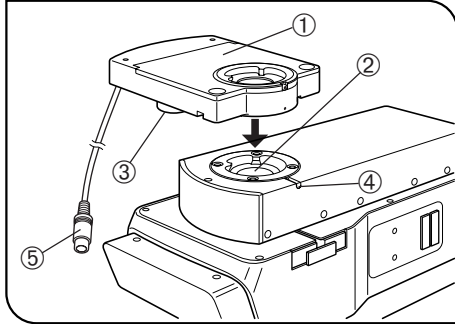

Fig. 3
### Mounting the MX-ANM Motorized Analyzer (Fig. 3)
1. Mount the MX-ANM motorized analyzer ① on the U-AFA2M tube mount ② of the U-AFA2M autofocusing unit or on the observation tube mount of the microscope so that the motor ③ is located on the left of the microscope when it is viewed from the front (as shown in Fig. 3), and secure the clamping screw ④ temporarily (because the cross-Nicol adjustment will later be necessary as described below).
2. Connect the connector ⑤ of the connection cable of the MX-ANM motorized analyzer to the connector marked “FW2” on the BX-UCB control box.